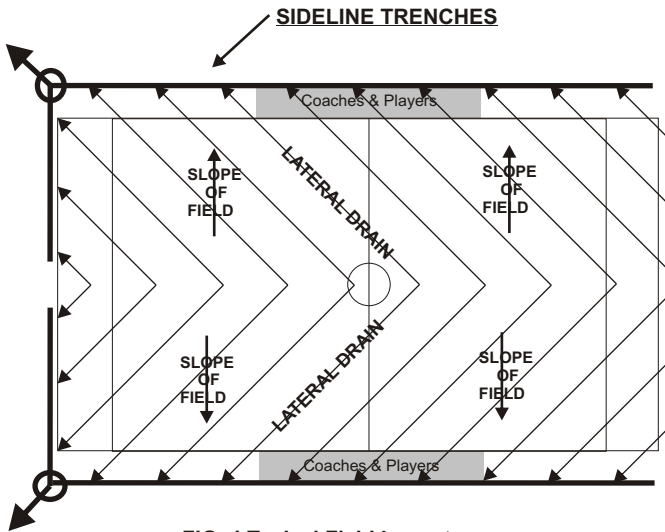

FIG. 4 Typical Field Layout
**FIELD LAYOUT:** During construction the field is generally graded with a slope from the center to sidelines. *Sideline Trenches* are dug for the collection pipe and the trench is sloped to the collection corners. After grading and compaction, the field and the trenches are lined with a filter fabric. The pipe and the **J-DRain SWD-12** (*Lateral Drains*) are placed on the field as shown in Fig. 4. The *Lateral Drains* are placed at an 45 degree to the slope so that water traveling down the slope seeks out a *Lateral Drain*.